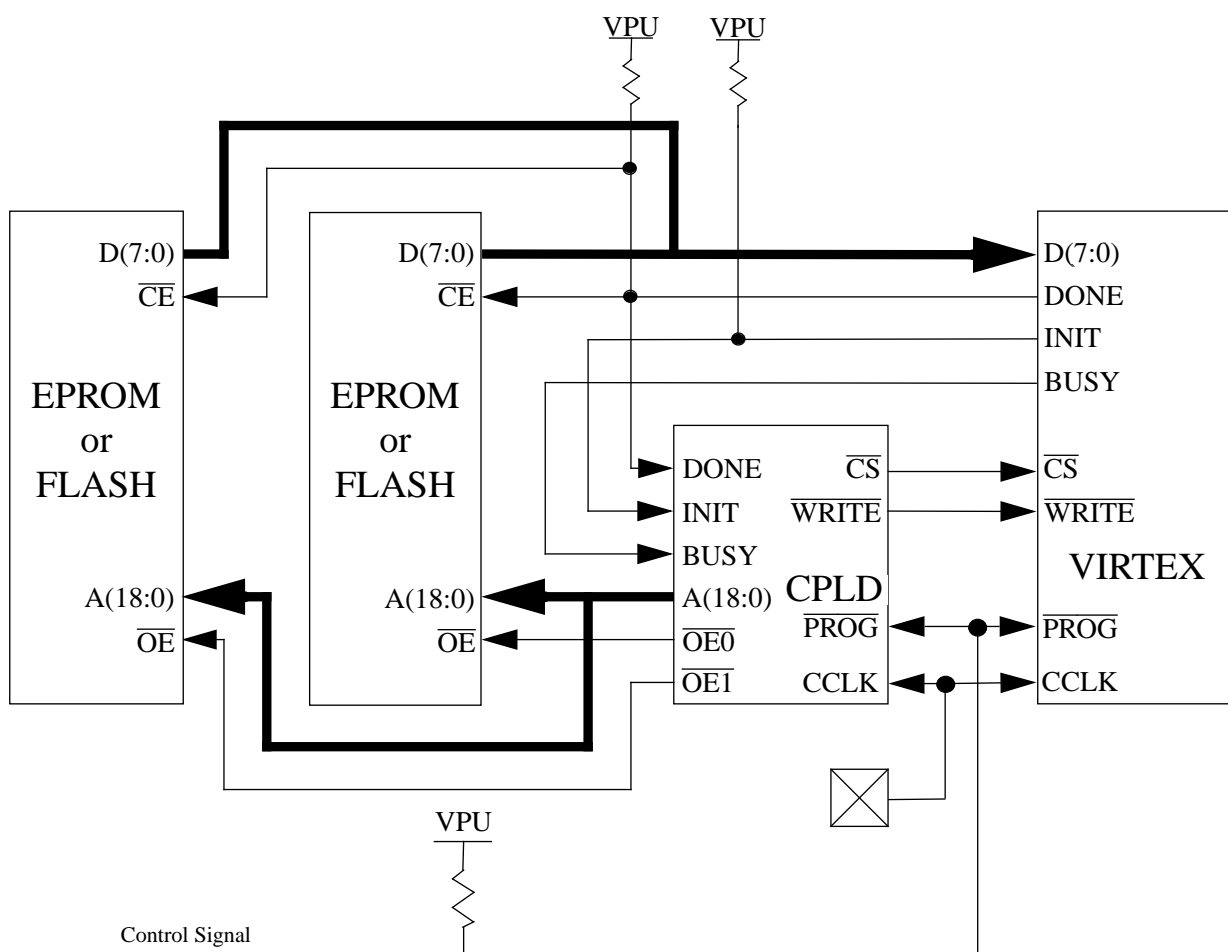

Figure 3: Connecting Multiple PROMs in daisy-chain
If the needed memory storage capacity requires the use of multiple PROMs then the interface design can be altered to accommodate PROM daisy-chaining as shown in Figure 3.
For the example shown in Figure 3, the 8 MBit PROM has been replaced with two 4 MBit PROMs. The common address bus is now only 19 bits wide and the MSB A(19) is used to select between the PROMs, see Table 1.